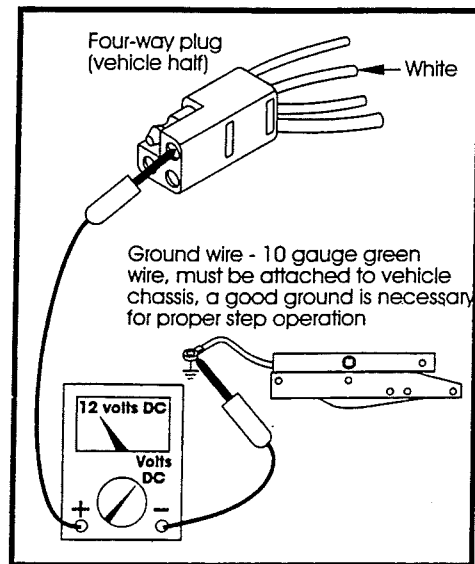

Figure 8
14. To check the power switch, connect the voltmeter between the white wire from the the four-way plug (vehicle half) and the terminal at the end of the control unit's 10 gauge green ground wire (see Figure 8). The reading should be a minimum of 12 volts DC (the same as in Step 13) when the switch is on, and zero (0) volts when the switch is off.